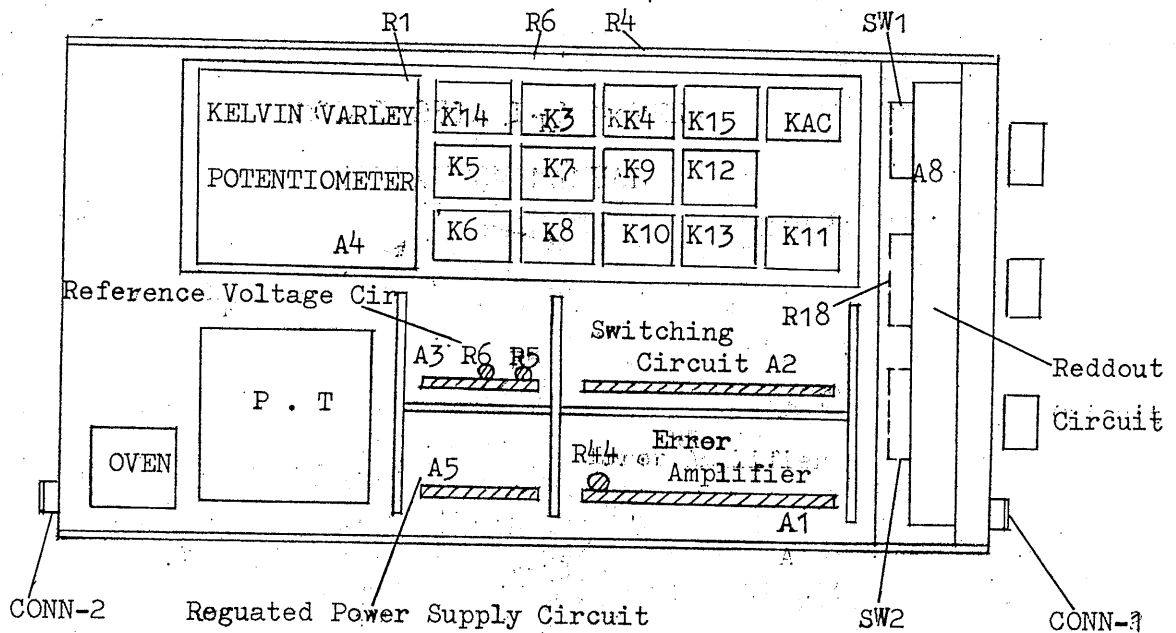
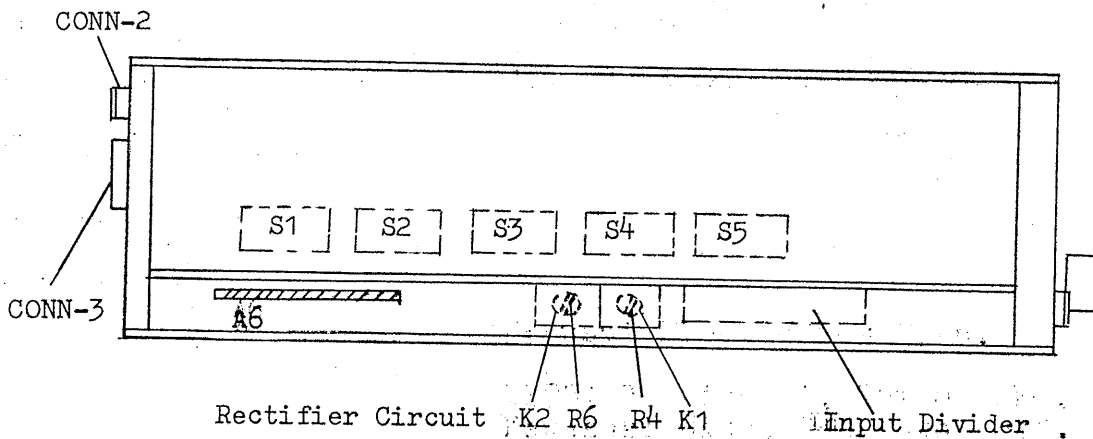

Fig 5-2 Top View
Fig 5-3
Fig. 5-2 and Fig. 5-3 show the disposition of the main component parts of this voltmeter.
2. Adjust R_5 of the reference power source (printed circuit board A_3) so that the current flowing in R_3 is 11 mA. (Refer to Fig. 5-2.)
is "10.000". (Refer to Fig. 5-2).
5. Set the 100-V range, make the input voltage 100.00 V, and adjust R_4 (lower portion of the chassis; shown in Fig. 5-3) so that indication is "100.00".